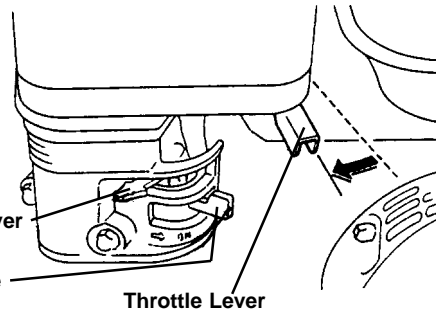

FIG. 4
10. Point the gun into the metal pail and hold a metal part of the gun firmly against the pail Refer to Fig. 4.
WARNING: To reduce the risk of static sparking, which can cause fire or explosion, always hold a metal part of the gun firmly against the metal pail when flushing. This also reduces splashing. Refer to Fig.4.
14. If you are going to start spraying, place the or suction tube into the supply container. Release the gun safety latch and trigger the gun into another empty, metal container, holding a metal part of the gun firmly against the metal pail (Fig. 4) and force the solvent from the pump and hose. When paint starts coming from gun, turn control valve to prime or fully counterclockwise position and engage the gun safety latch.
WARNING: If you spray into the paint bucket, always use the lowest spray pressure and maintain firm metal to metal contact between gun and container. See page 2, Fig. 4.